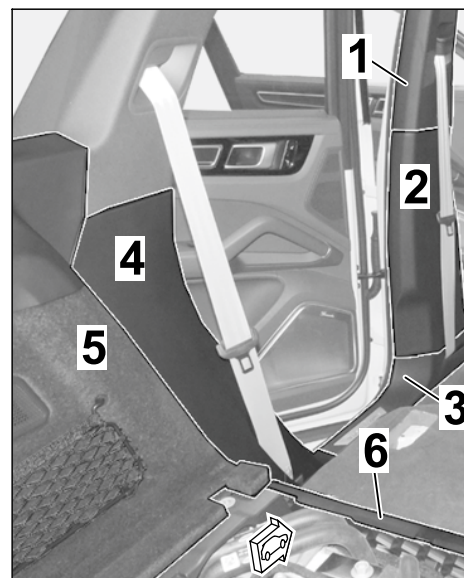

Figure 11
1.6 Expose the B-pillar area (left side) (⇒ Figure 11)